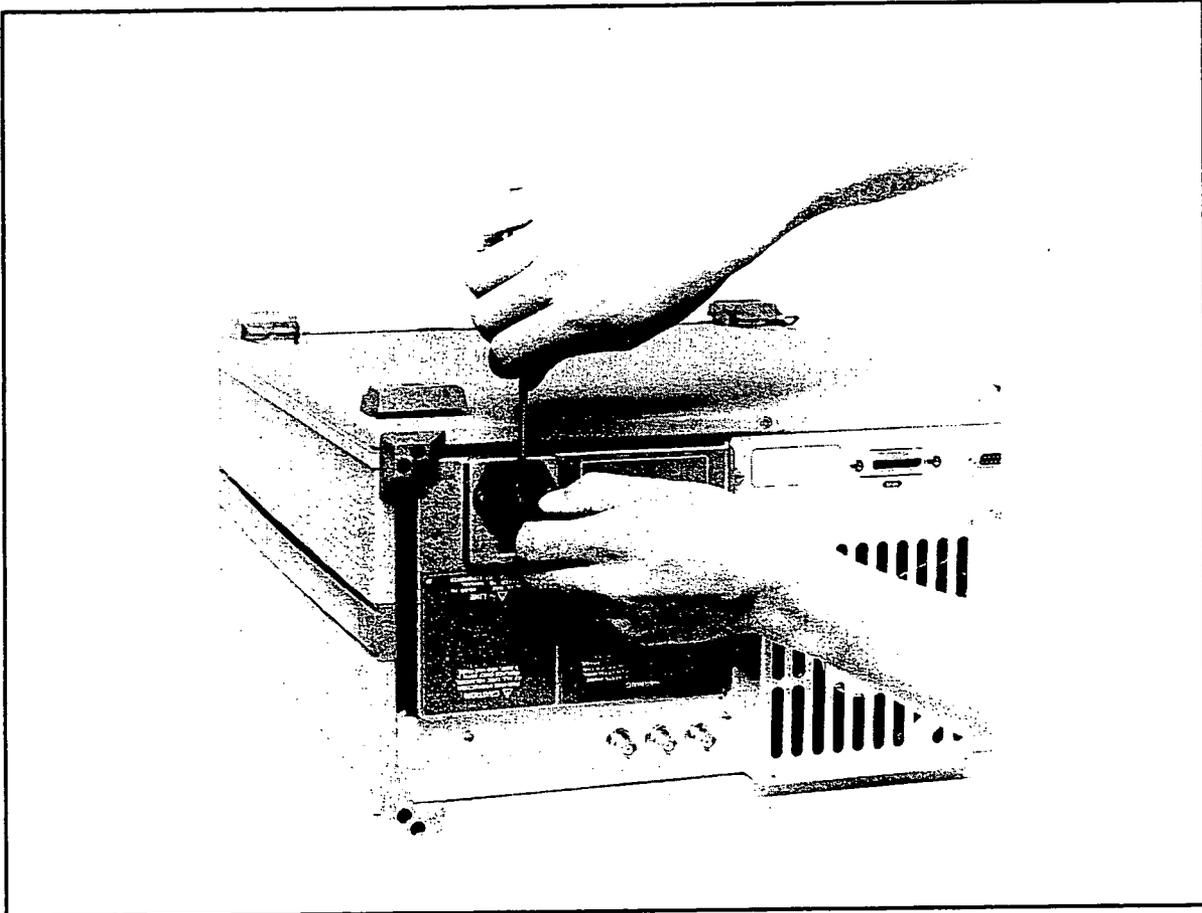

Figure 1-2. Removing the Line Fuse Holder
2. Use a small flat-bladed screwdriver to pry out the fuse holder as shown in Figure 1-2.